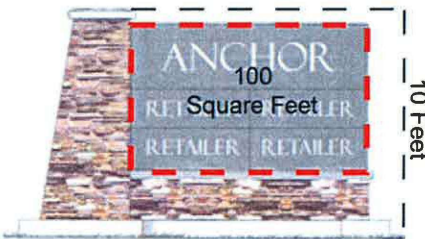

Figure 17.80.070(A)
B. **Combined Monument Signs in the Commercial, Industrial, and Airpark Zones.** Developments that have multiple parcels pads and are located in a commercial, industrial, or airpark zone may be ~~allowed~~required to construct one ~~or more~~ combined monument sign structures per street frontage, ~~equal to the number of driveway access points along that particular street frontage.~~ The ~~Allowance requirement~~ to construct the monument sign structures may be a condition of approval for a site plan or conditional use. The developer shall ensure that the sign structure allows for as many building pads to be included as is reasonably possible. It is not a guaranteed right that all businesses will have sign space on the combined monument sign. The sign copy will be approved by the planning director or designee through the sign permit application process. All combined monument signs shall be designed and built in substantial conformance to the sign depicted in Figure 17.80.070(A) and must comply with the standards enumerated in subsections (A)(4) through (A)(7) of this section and the standards contained in this subsection. Minor variations to the sign design may be considered by the planning director. More significant variations require approval by the planning commission and city council; height and size requirements may not be exceeded.